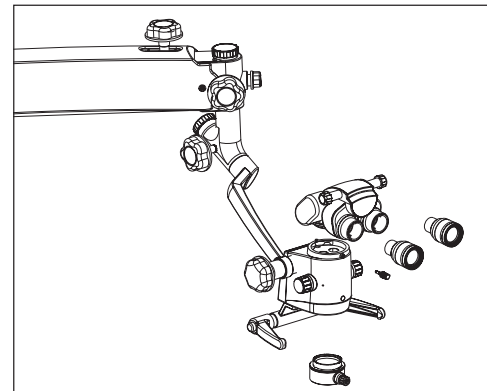

Fig. 6
- 7.5 Install the binocular head and eyepieces on the magni-changer. Secure the binocular head with head locking screw. See figure 6.